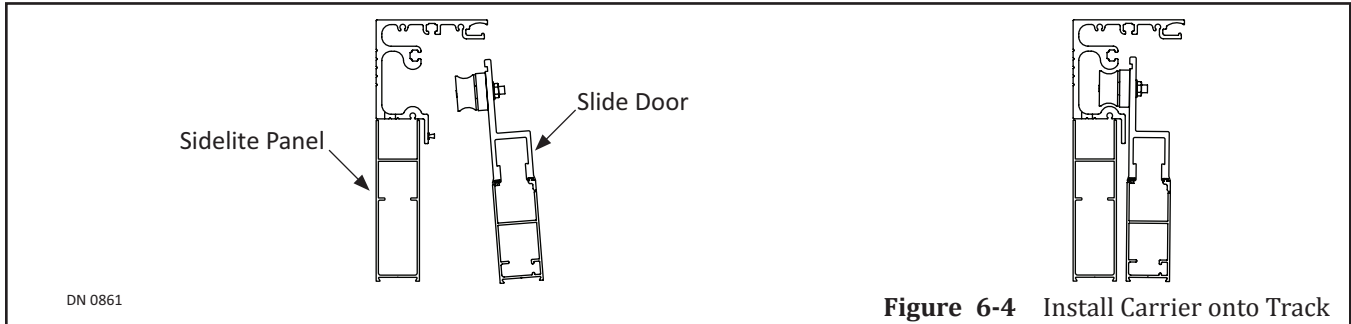

Figure 6-4 Install Carrier onto Track
5. Slightly tilt the Slide door to make it easier for the (4) Rollers to 'catch' onto the track. Please see Figure 6-4.